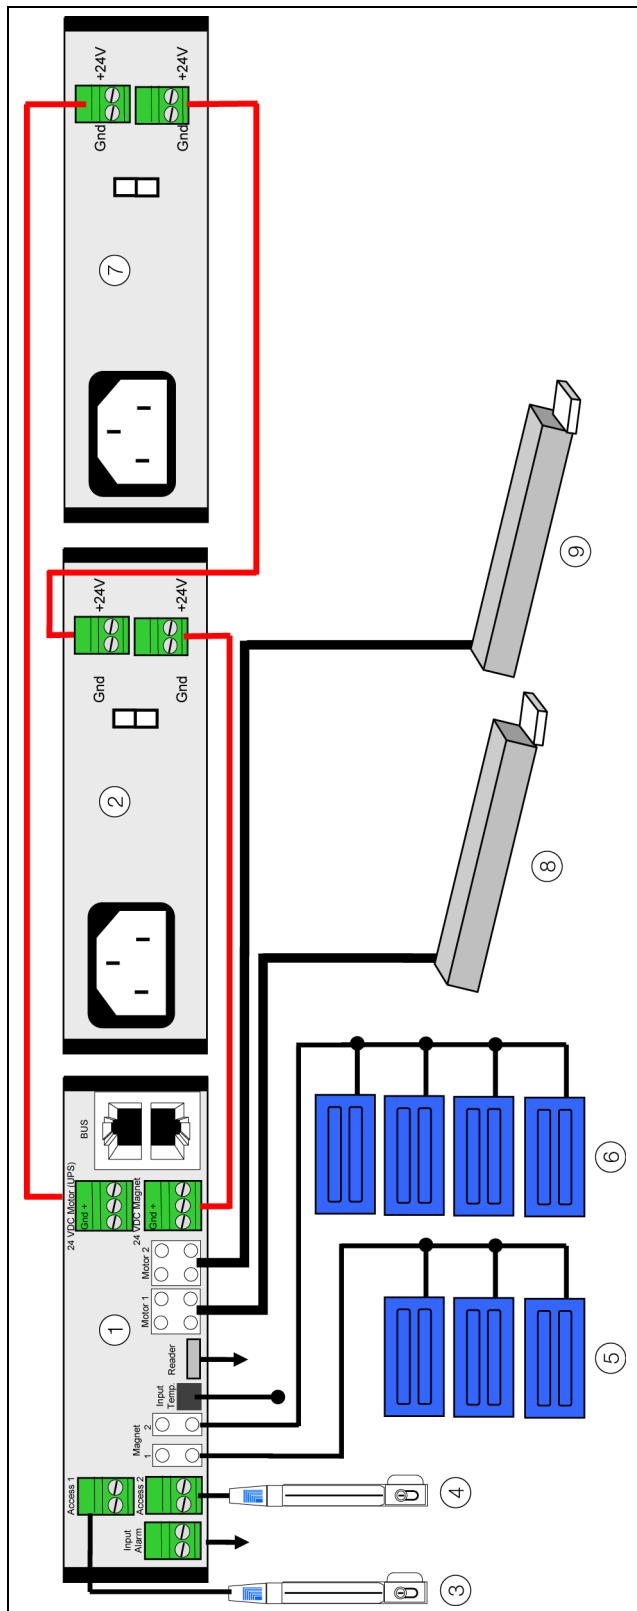

Fig. 11: Connecting the door kit extension
- Next, join the two power supply units together using the unused connections on the power supply (fig. 11).